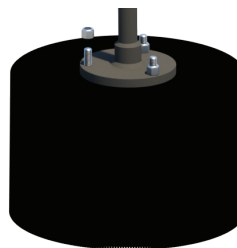

Figure 35
**4.0.4)** Thread a locknut onto the screw until it bottoms out and is tight. Repeat for the other two 2-inch-long cap screws (see Figure 35).